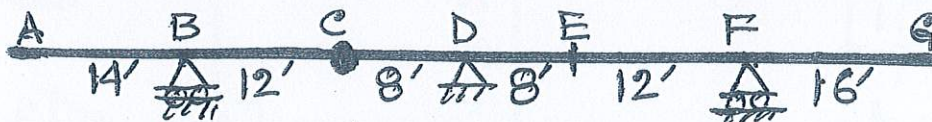

Fig. 5
7. Draw the influence lines for (i) the reaction at D (ii) the shear force at E and (iii) the bending moment at E of the Beam in Fig. 5. Also calculate the maximum ~~value~~ -ve value of the functions for the combination of UDL dead load of 8 k/ft, moving UDL live load of 12k/ft and a point load of P kips, where P = Last digit of Roll + 10. (12)